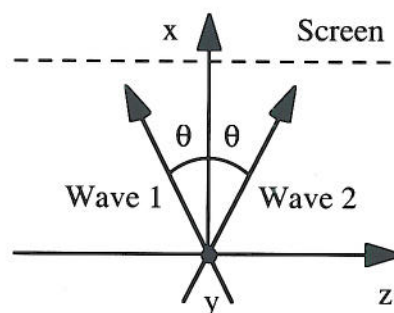

Figure 1.
- b) Two y-polarised optical waves of equal amplitude and identical angular frequency cross in free space as shown in Figure 1. Calculate the pattern of light seen on a screen placed normal to the x-axis.